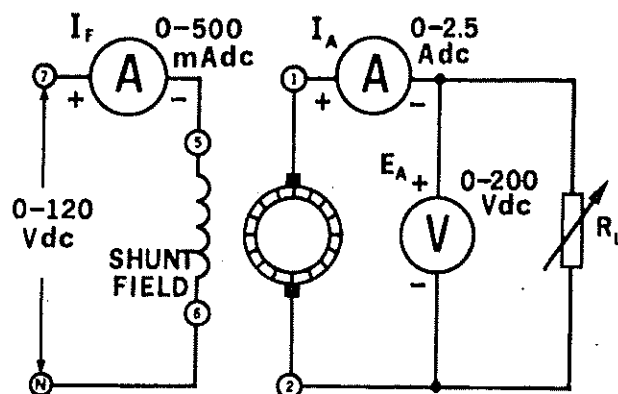

Figure 7-3.
- 9. Using your Resistive Load, connect the circuit shown in Figure 7-3. Place the resistance switches so that the total load resistance is 120 Ω .